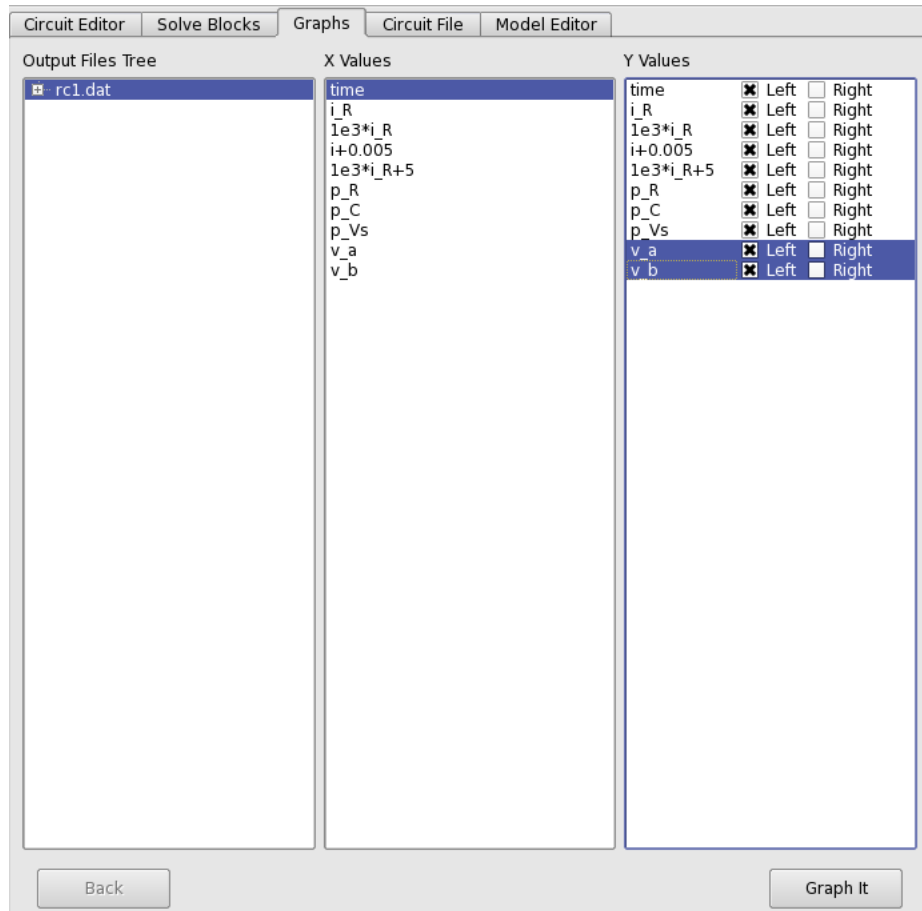

Figure 5: Snapshot showing Graphs section.
- (vi) When the program is successfully completed, the GUI enters the “Graphs” section. The central window turns into a three-column format (see Fig. 5). In the left column, you